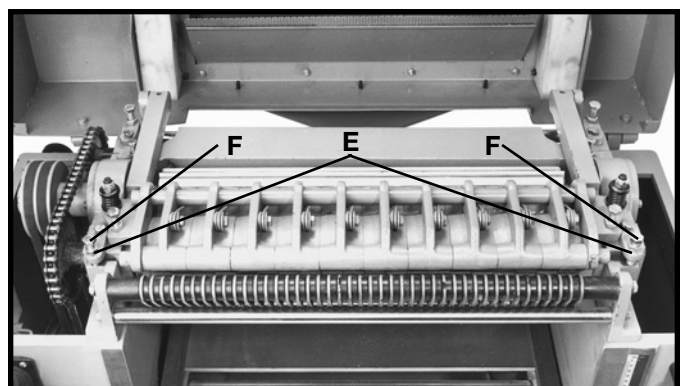

Fig. 48
- If an adjustment is necessary, loosen locknut (E) Fig. 48, and turn adjustment screw (F) until the infeed roller just touches the top of gage block (A).
- Tighten locknuts (E) Fig. 48, after adjustments are completed.